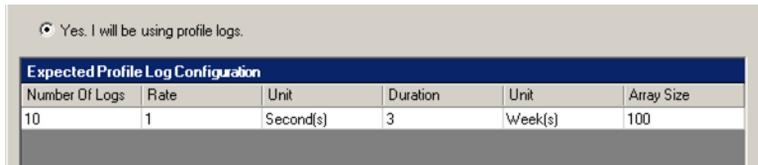

Figure 44. Profile Logs Information
- b. Enter the required profile log information (Figure 44). Click + or - (not shown in Figure 44) to add or remove a group of logs.